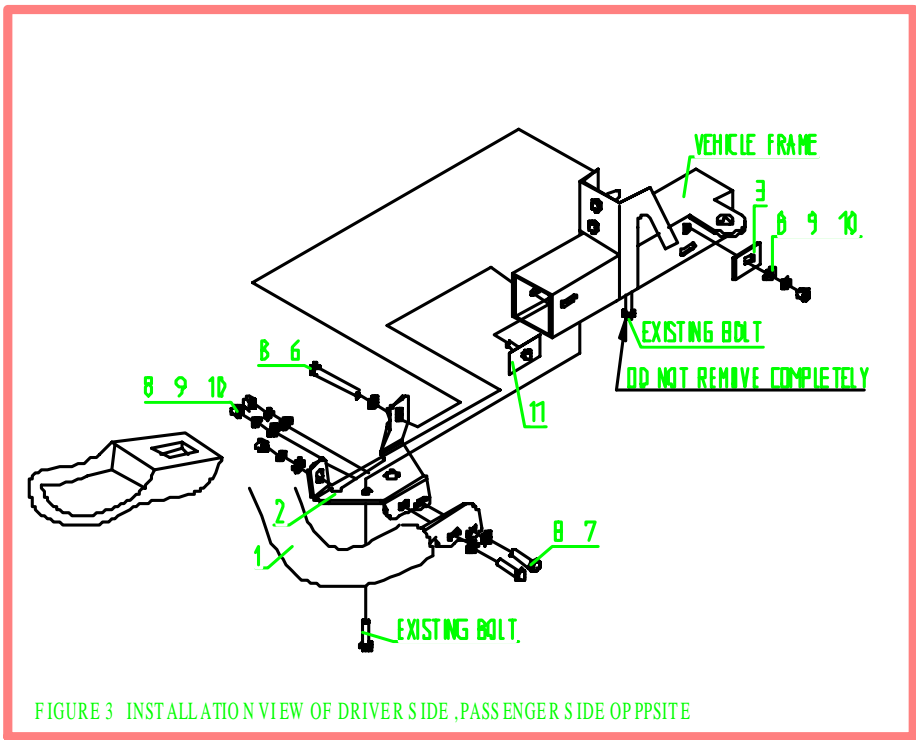

FIGURE 3 INSTALLATION VIEW OF DRIVER SIDE ,PASSENGER SIDE OPPPOSITE
STEP 4. Determine passenger driver brackets. Attach brackets using mount plates, bolt plates, and 1/2" fasteners as shown. Bolt plates will be inserted from the end of the frame rail. Hand tighten. Rein stall front tow hook bolt and torque to 60 FT. LBS and 1/2" fasteners to 65 FI. LBS. SEE FIGURE 3.